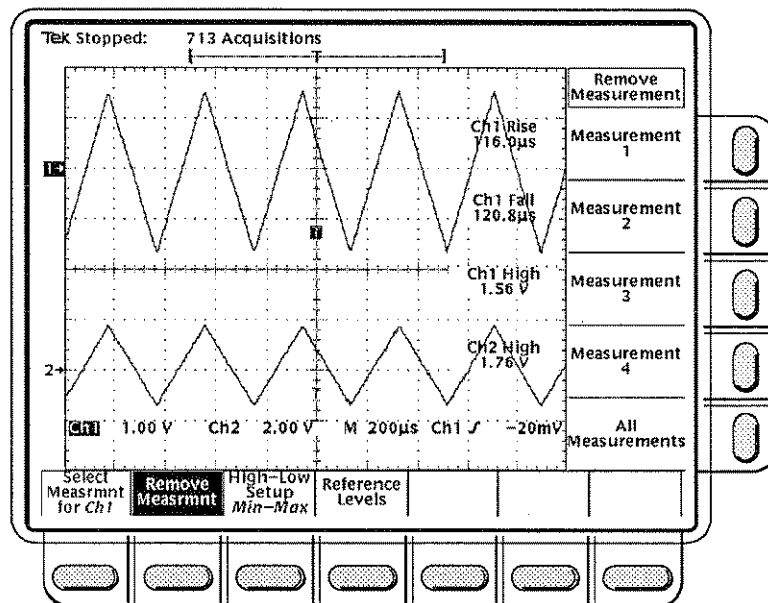

Figure 3-31: Remove Measurement Side Menu
- Step 1:** Press the **MEASURE** button to bring up the Measure menu (Figure 3-31).
- Step 2:** Press the **Remove Measrmt** main menu item (Figure 3-31).